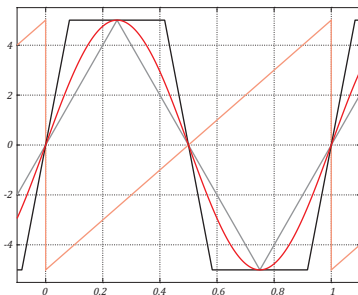

fig. 2: A SELECTION OF WAVEFORMS AVAILABLE FROM BATUMI II: SINE, TRIANGLE, UPWARD SAW, TRAPEZOID, AND THEIR TEMPORAL RELATIONSHIP
Each channel of Batumi generates three simultaneously available bipolar ( $\pm 5V$ ) waves, present at the three jacks: **SINE** ❷, **ASGN** ❸, and **RECT** ❹. Within each channel, the cycles of these three waves are strictly synchronous (fig. 2). However, there may be frequency and phase differences between channels, depending on the mode of the device. Also, with the Poti II expander, it is possible to deform and attenuate the waves. **NOTE:** there is no provision for attenuating the rectangular outputs.